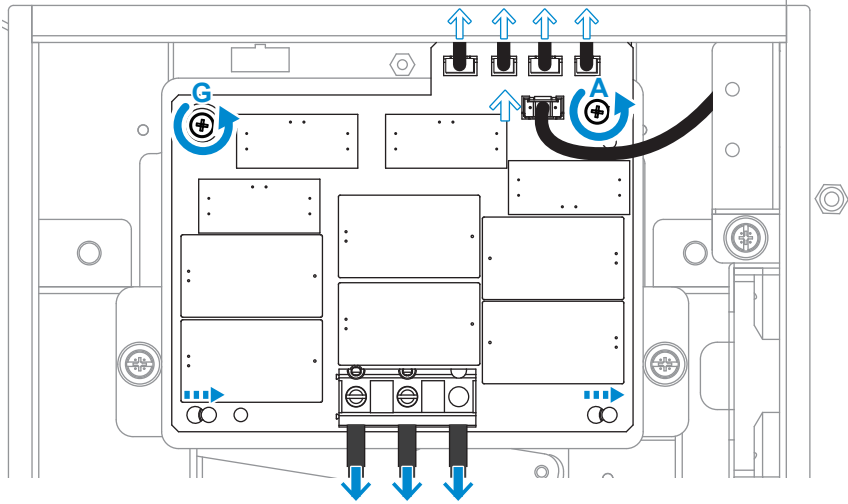

Figure 5-6: Remove wirings as connectors of AC SPD
- **To remove the defective AC SPD (Figure 5-6)**
Tighten the five screws to a torque value shown in **Figure 5-6**.